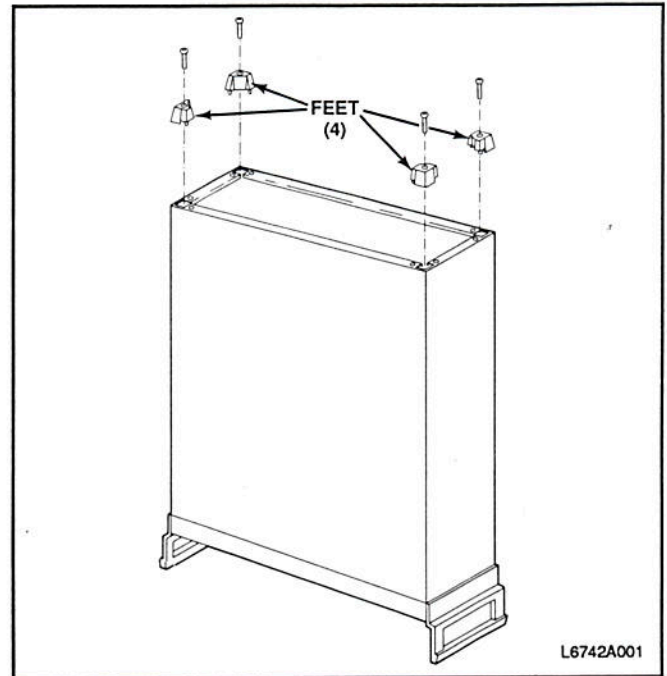

Figure 7-1. Removing the cover
2. Place the system onto the handles so that the rear panel is facing up (Figure 7-1).